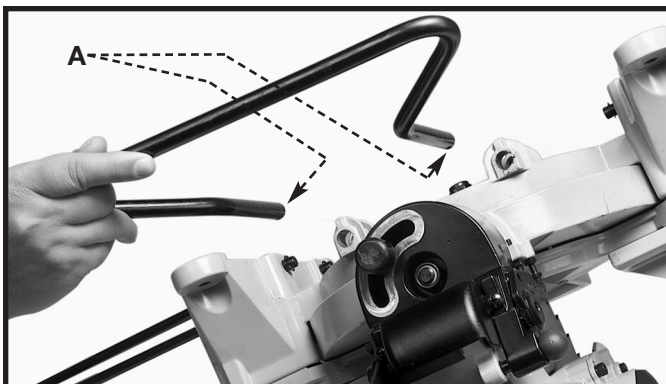

Fig. 3
1. Insert the two ends (A) Fig. 3 of the rear support/stabilizer and carrying handle through the two holes (B) in the back of the base.